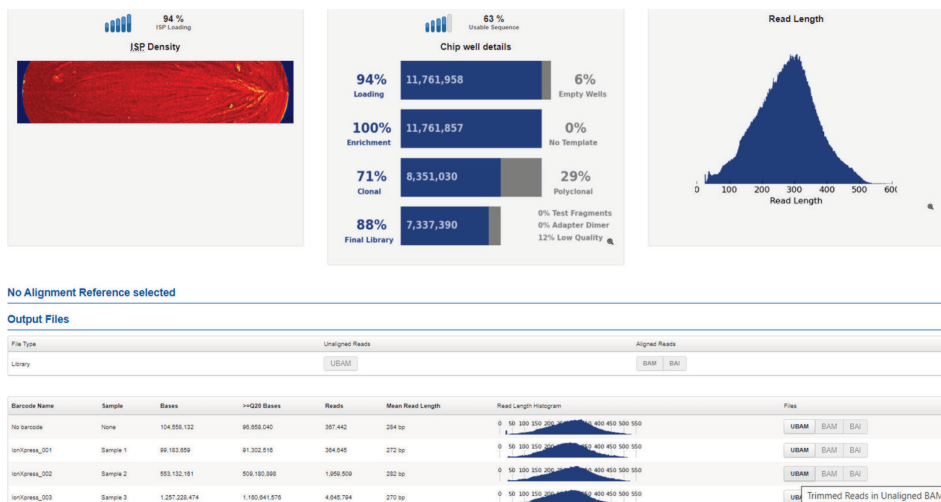

Figure 7. Torrent Browser report page and output files.
1. Upon completion of the sequencing run, navigate to the report page on the Torrent Browser. Locate the **Output Files** section near the end of the report (Figure 7).